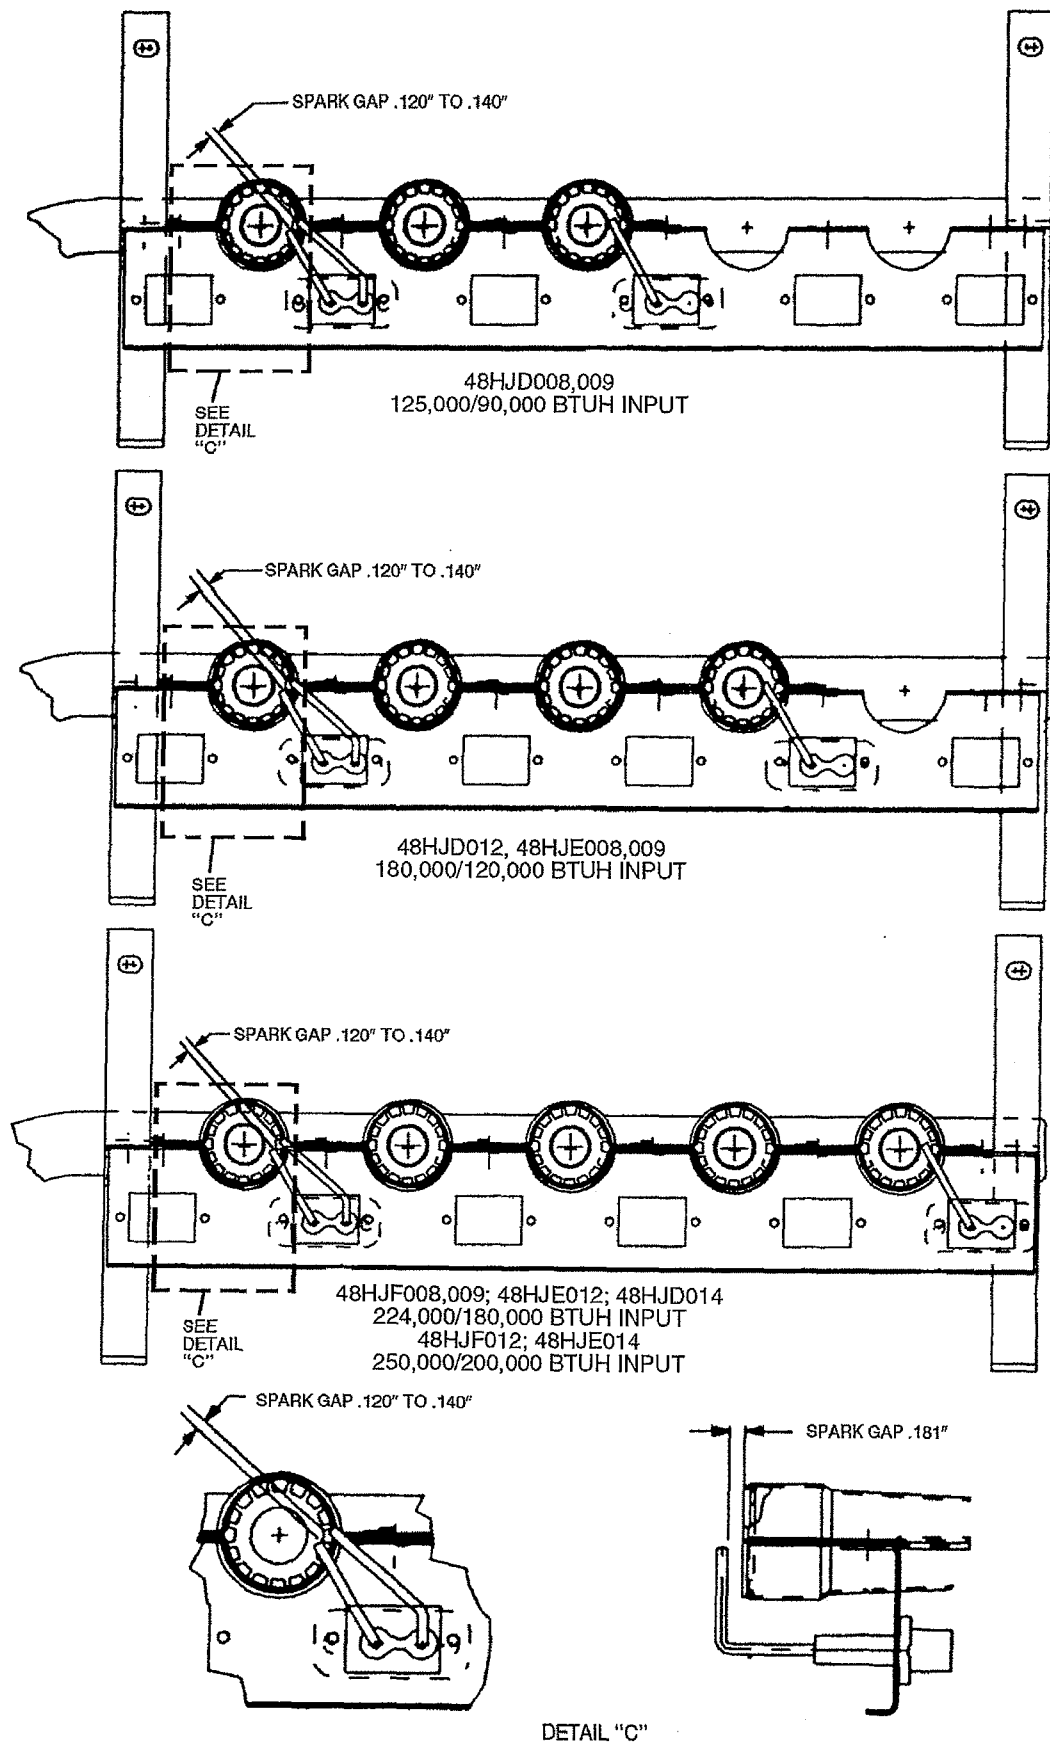

Fig. 66 — Spark Gap Adjustment
- Adjust spark gap. See Fig. 66.